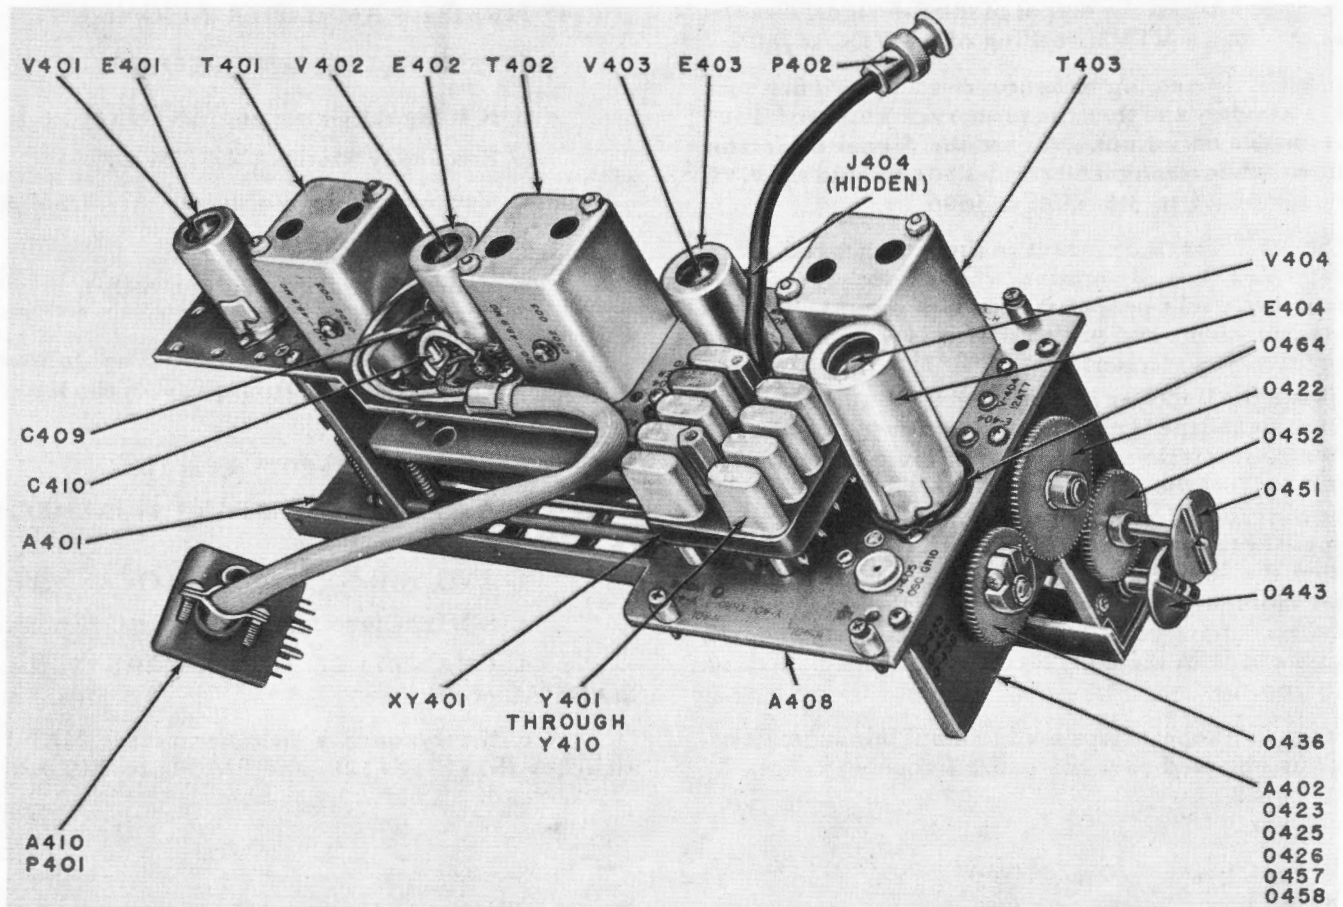

Figure 6-7. Radio Receiver R-278B/GR, First I-F Amplifier, Top View
Step 2. Connect the R-F Signal Generator to J404 (figure 6-7).
2. Measuring from the top of the transformer can, adjust each iron core of T401, T402, and T403 (figure 6-7) to a depth of 1-11/32 inches.